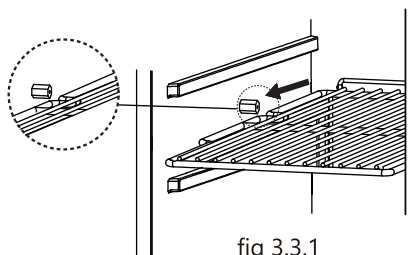
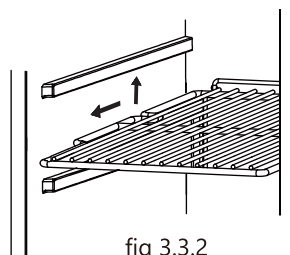

fig 3.3.1
fig 3.3.2
2. Remove the shelves—Pull each shelf out to the shelf post, as shown in **fig 3.3.1**. Lift it up again, then slowly pull the shelf out, as shown in **fig 3.3.2**.